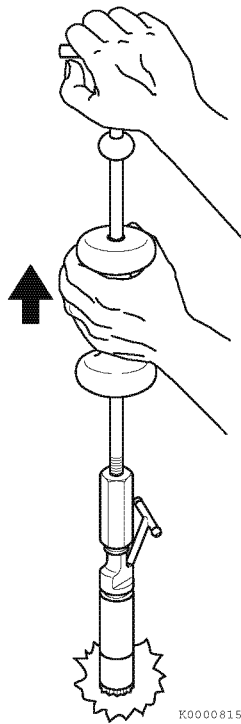

Figure 7-45
*Note: The fuel injectors can usually be removed by manually pulling them out of the fuel injector wells. If the fuel injectors cannot be manually removed, use the fuel injector removal tool, YANMAR Part No. 129470-92305, and a slide-hammer puller (**Figure 7-45**).*